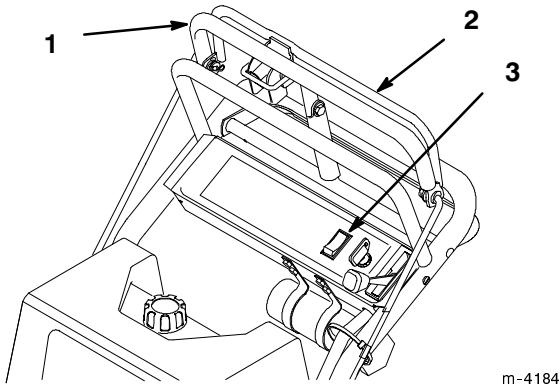

Figure 15
1. Pull on the upper control bar to stop the machine (Fig. 15).
1. Releasing blade control bail to disengage blades (PTO) (Fig. 15).